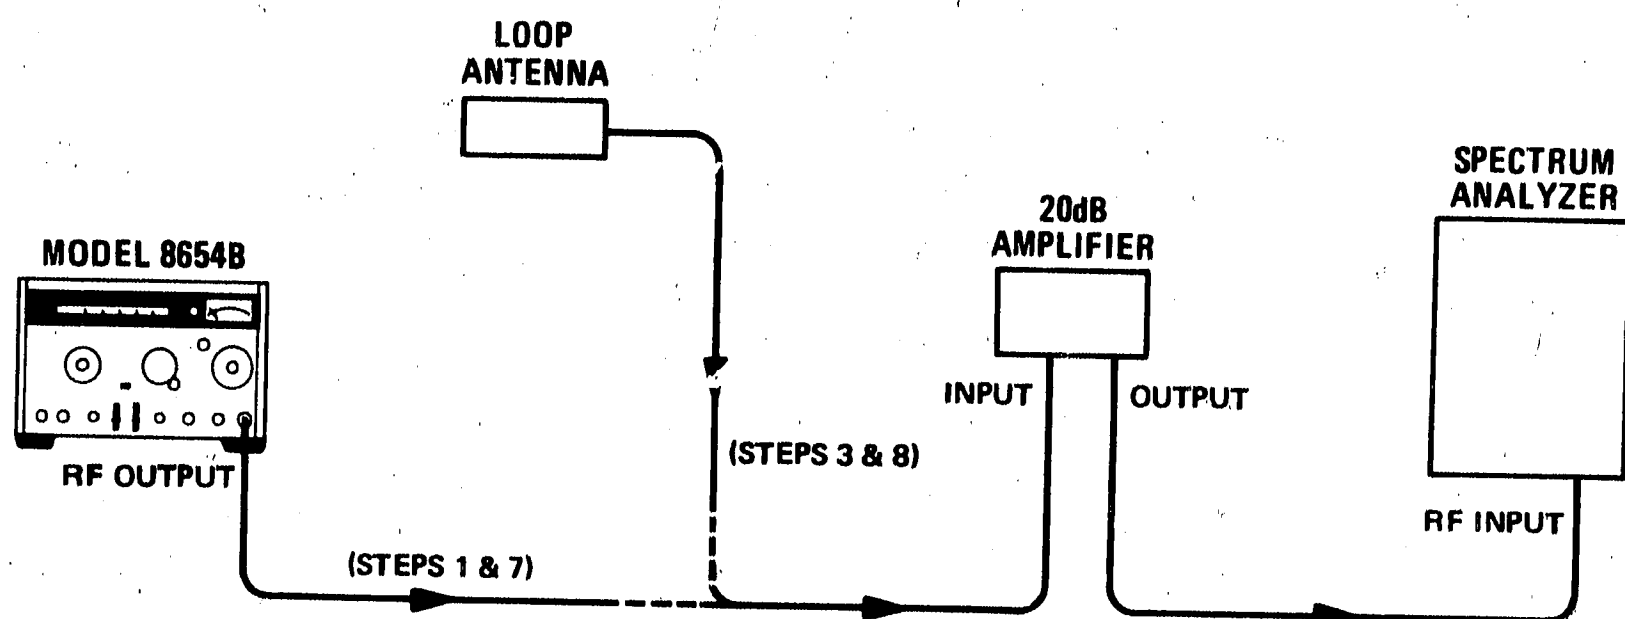

Figure 4-4. Output Leakage Test Setup
1. Connect equipment as shown in Figure 4-4 (with Signal Generator connected to spectrum analyzer (through 0.1 to 400 MHz amplifier). Set generator controls as follows: